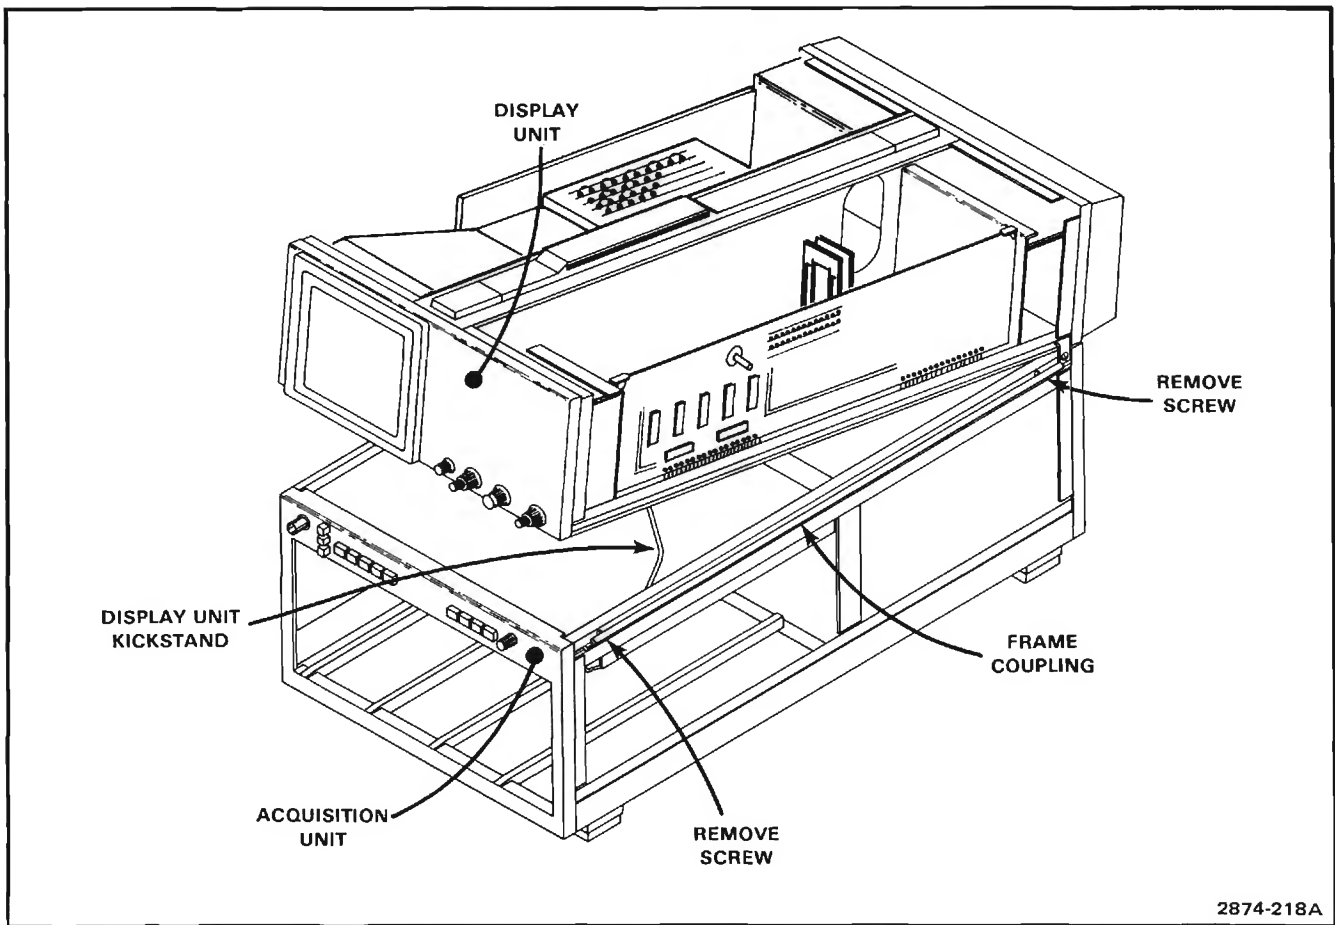

Figure 3-12. Use of the Display Unit kickstand.
The Display unit of the 7854 Oscilloscope mainframe is equipped with a kickstand to ease access to interior components of the instrument (see Fig. 3-12). To use the kickstand feature, disconnect the power-cord plug from the power source. Then remove the side and top panels as described under Cabinet Panel Removal. Remove the two frame coupling screws on each side of the 7854 This will allow the upper portion of the frame coupling to be pivoted outward. The two units can now be separated at the front of the instrument (the kickstand will hold the units apart). To assemble the units, disengage the kickstand and reverse the disassembly procedure.
1. Separate the Display Unit from the Acquisition Unit as previously described under Display Unit Kickstand. (Fig. 3-12)
2. Remove the VERT TRACE SEPARATION (B) knob.